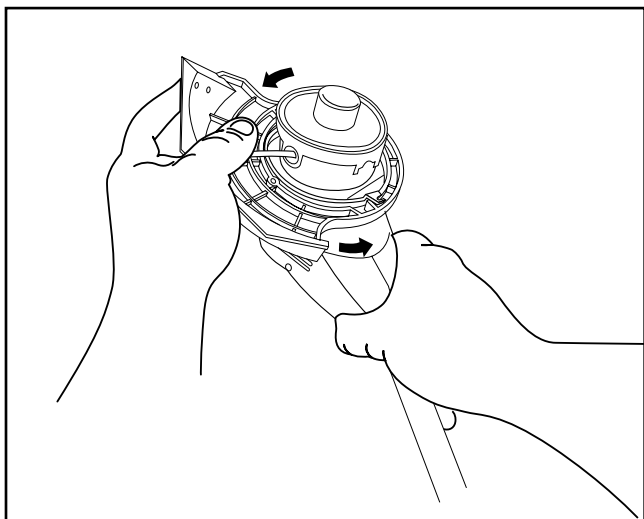

Fig. 5
2. Rotate the string guard **counterclockwise** (to the left) until the tabs line up with the screw holes and the guard locks in place (Fig. 5).